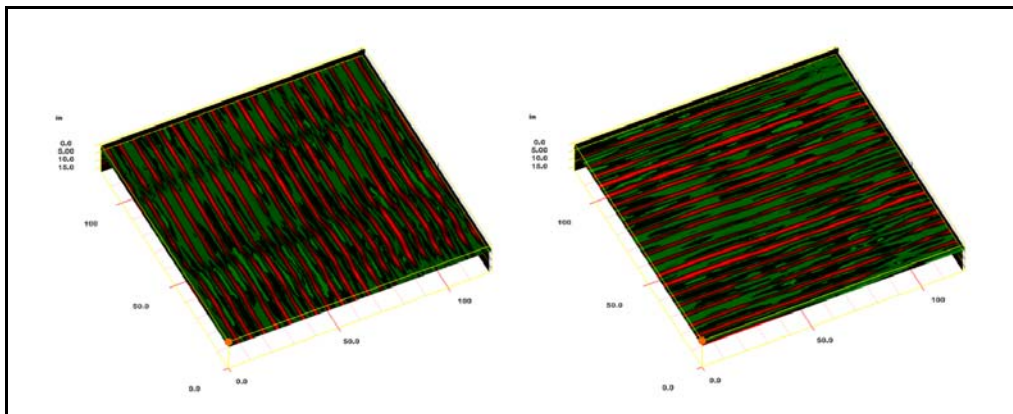

Figure 29: Data display in 3D QuickDraw. A 10×10 ft area of a warehouse floor with wire mesh.
3D QuickDraw adds the three-dimensional cube/slice viewing capability to RADAN (Figure 29). This shows the entire site at once in a plan view or as a user-selected perspective view of the data “cube”. The required dataset is a grid of 10 or more parallel lines in one direction (X). There is no limit to the dimensions of the survey area.